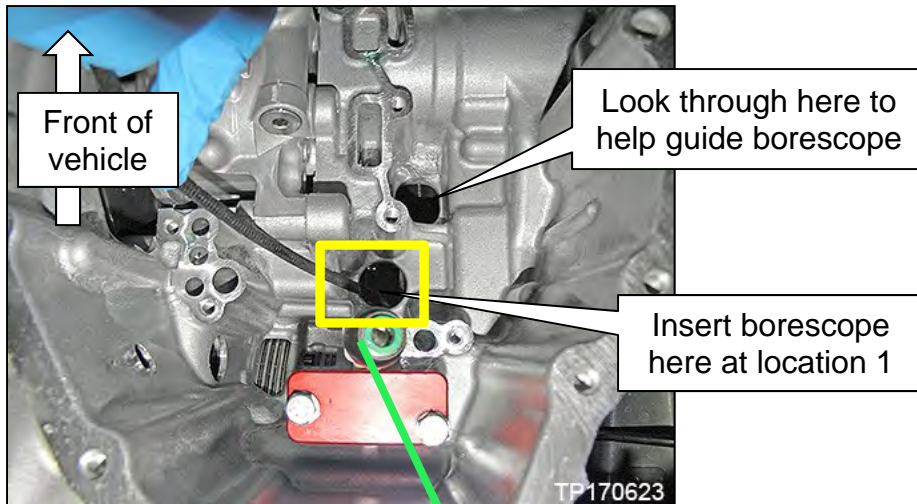

Figure 32
c. Insert the borescope where shown in Figure 32 as follows: